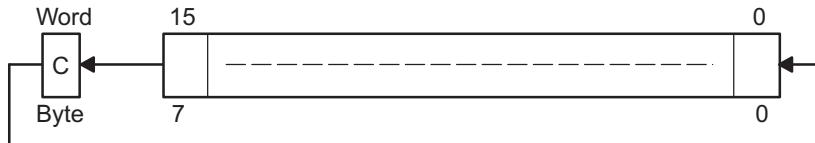

Figure 3-16. Destination Operand - Carry Left Shift
Description	The destination operand is shifted left one position as shown in Figure 3-16 . The carry bit (C) is shifted into the LSB and the MSB is shifted into the carry bit (C).